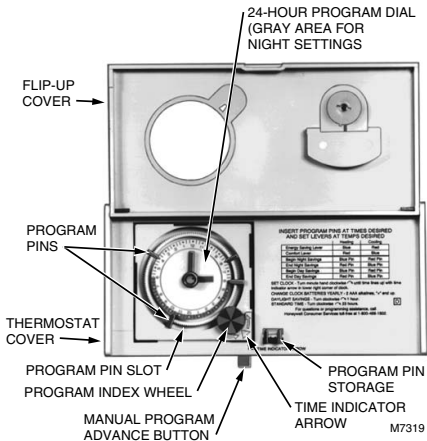

Fig. 4—Program Components.
- Lift thermostat flip-up cover to find the 24-hour program dial. The slots on the program dial (Fig. 4) are for the program pins that can be inserted at 10-minute intervals.